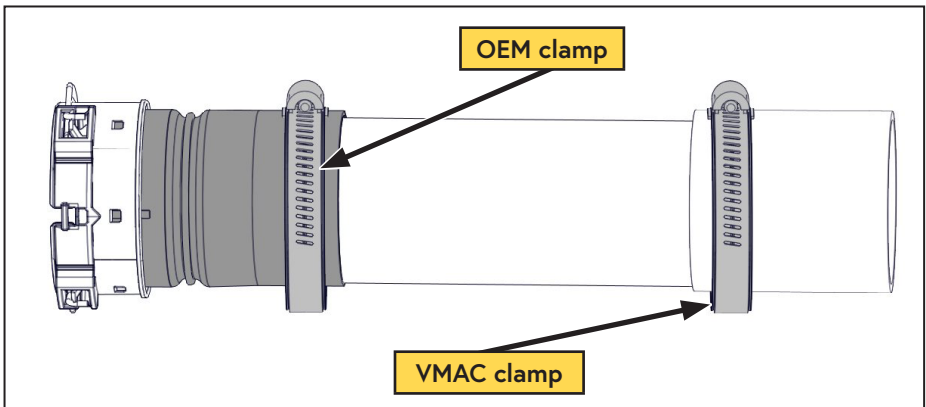

Figure 99 — Installing the CAC hoses
- ☐ Install the VMAC "hot" CAC tube into the OEM silicone hose on the engine side OEM "hot" CAC quick connect and secure with the OEM hose clamp. Ensure the internal bead on the silicone coupler engages the bead on the VMAC tube (Figure 99).